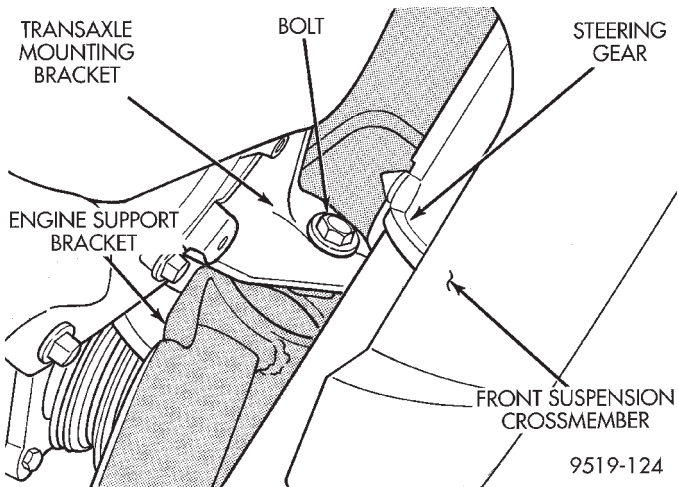
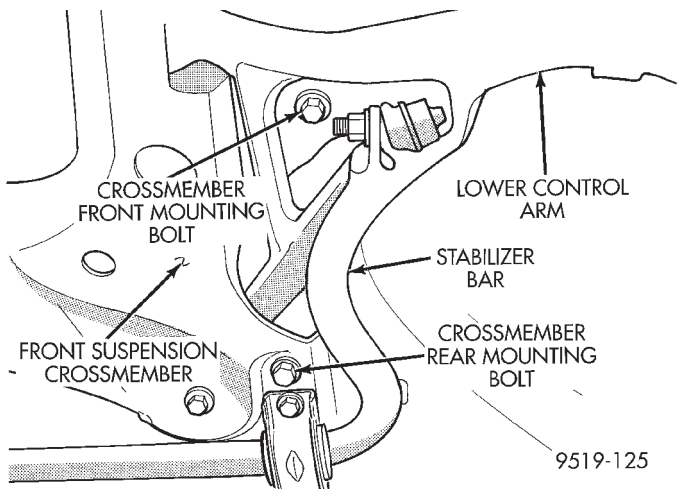

Fig. 14 Engine Support Bracket To Transaxle Bracket Bolt
Fig. 15 Crossmember To Body Attaching Bolts
(16) Remove bolt (Fig. 14) attaching engine support bracket to the transaxle mounting bracket.
(17) Position a transmission jack under the center of the front suspension crossmember. Transmission jack is used to lower, support and raise front suspension crossmember when removing steering gear assembly.
(18) From each side of the vehicle, remove the 2 bolts attaching the front and rear of the front suspension crossmember to the frame rails of vehicle (Fig. 15).
(19) Using transmission jack, lower front suspension crossmember enough to allow steering gear to be removed from crossmember. **When lowering front suspension crossmember, do not let crossmember hang from lower control arms, weight of crossmember must be supported by the transmission jack.**
(3) Using transmission jack, raise front suspension crossmember and steering gear against body of vehicle. Start the 2 rear bolts (Fig. 15) into tapping plates, attaching front suspension crossmember to body of vehicle. Then install the 2 front bolts, (Fig. 15) attaching front suspension crossmember to frame rails of vehicle. Tighten the 4 mounting bolts evenly, until front suspension crossmember is against body of vehicle at the 4 mounting points. Then torque the 4 mounting bolts to 2 N·m (20 in. lbs.) to hold front suspension crossmember in position.
(6) Install bolt (Fig. 14) attaching engine support bracket to transaxle mounting bracket. Tighten bolt to a torque of 75 N·m (55 ft. lbs.).